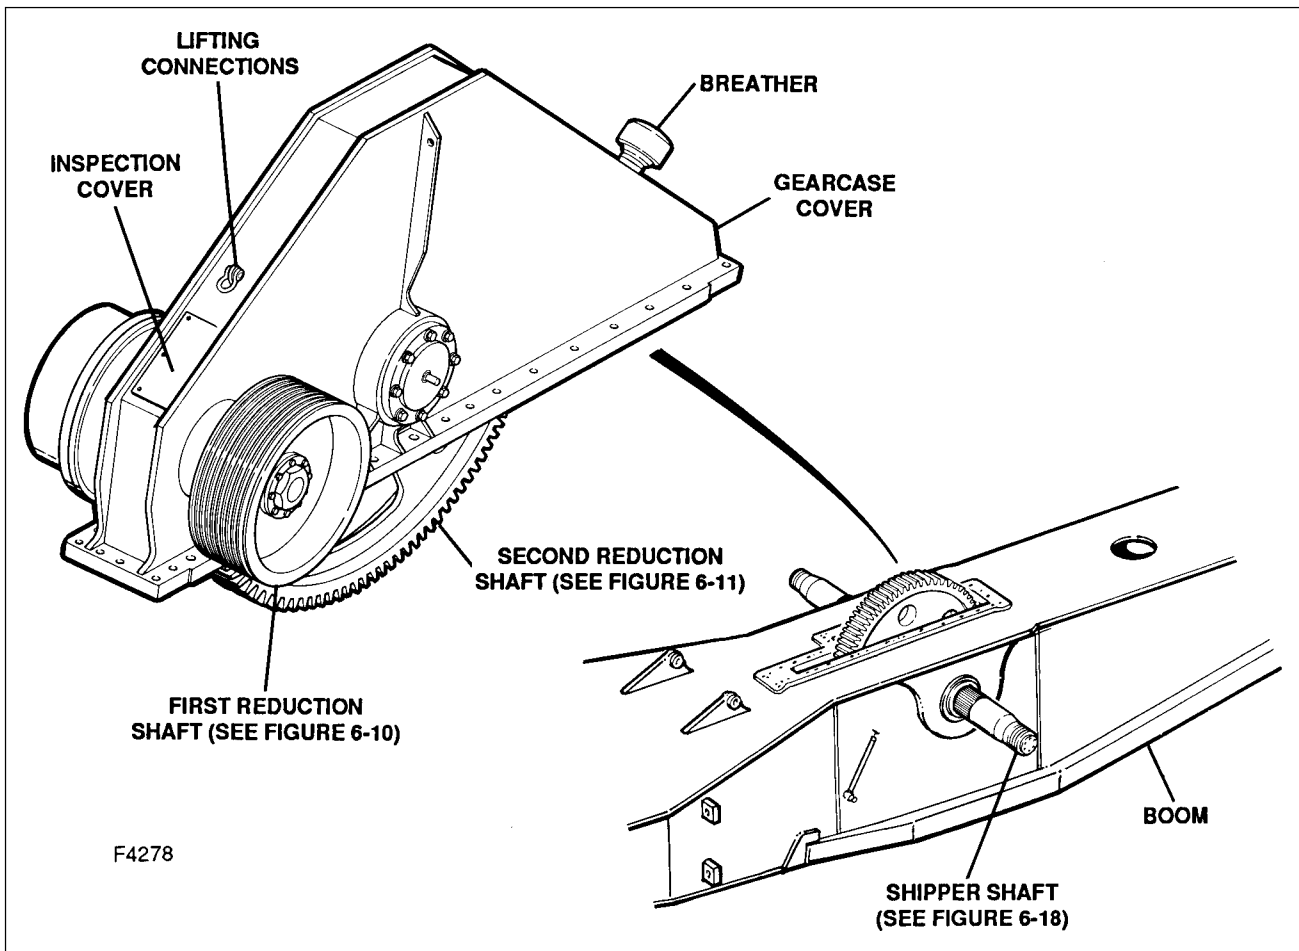

Figure 6-7. Crowd Gearcase (914J394)
The crowd gear case, shown in Figure 6-7, is an integral part of the boom assembly. The crowd transmission shaft assemblies are supported in bearing housings that are machined into the sides of the crowd gear case.
CROWD GEAR CASE COVER REMOVAL. Refer to Figure 6-7 and remove the crowd gear case cover with the first and second reduction shafts as follows:
9. Prepare suitable blocking to support each end of the crowd gear case cover in its normal position as illustrated in Figure 6-7. The blocking must be arranged to allow the second reduction shaft gear to hang beneath the cover without touching the floor or ground.
10. Attach suitable lifting equipment to the lifting connections shown in Figure 6-7 and lift the assembly consisting of the crowd gear case cover and the first and second reduction shafts out of the crowd gear case as a unit.
Remove the shipper shaft assembly from the crowd gear case as follows. Refer to Figure 6-7.